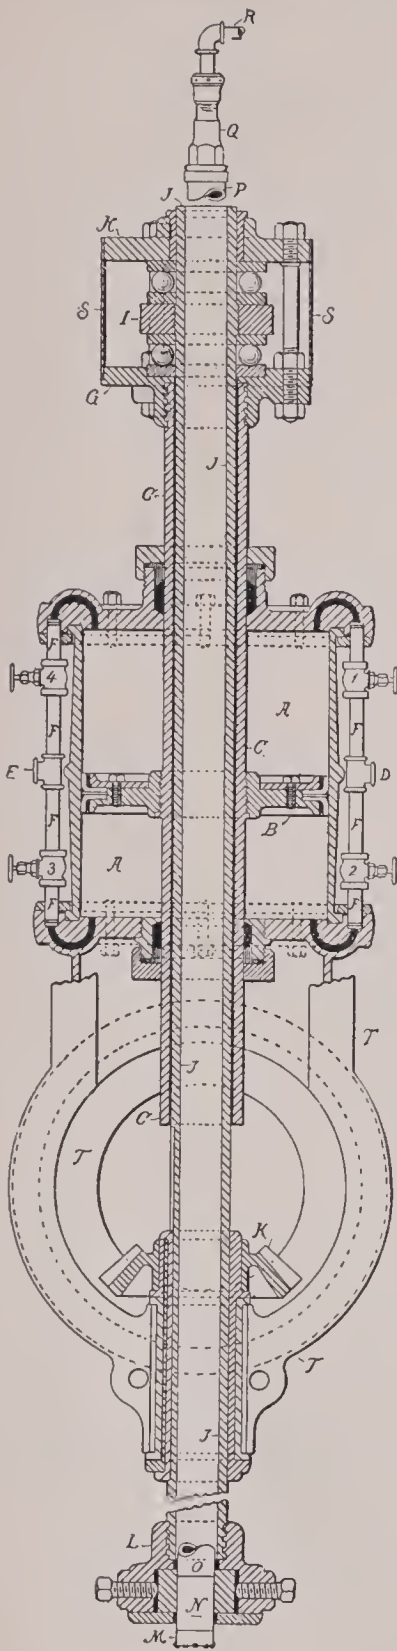
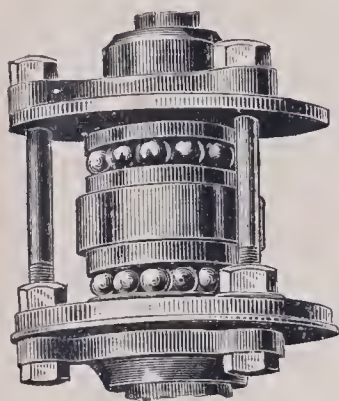

Fig. 4.
Fig. 5.
**HYDRAULIC FEED.** For the advance or "feed" of the drilling bit, the *Single Cylinder Hydraulic Piston Feed* is used on all SULLIVAN DRILLS except in case of the "M" and "E" drills, whose friction feed will be described later. With the hydraulic cylinder the feed is not limited to three or four speeds, as in the case of the positive gear-fed drills, but can be adjusted to any degree of nicety necessary to secure the best results in speed and accuracy. Referring to the sectional view of the feed apparatus (Fig. 4), it will be seen that its arrangement and operation are as follows:
**FRICTION ROLLER BEARINGS.** An important detail of the hydraulic feed-drills is the friction roller bearing, shown in Fig. 4 and in the accompanying perspective view, Fig. 5. It consists of two sets of hardened steel balls, ground round and true, which run in grooves in steel plates, also hardened and ground. One set sustains the weight of the rods when they hang in the drill-chuck; the other set sustains the upward thrust of the rods in drilling. This device reduces to a minimum the amount of work lost in friction, leaving the whole power of the engines to be devoted to drilling. The friction roller bearing is enclosed in a sheath which keeps it clean and prevents heating.